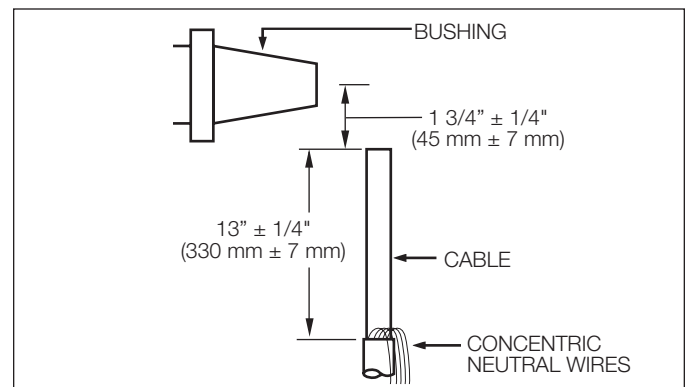

Figure 3.
- Measure 13" (330 mm) from end of cable. (Refer to Figure 3.)
- If unjacketed neutral cable, bind neutral wires using (3) wraps of tape at 14 3/4" dimension.